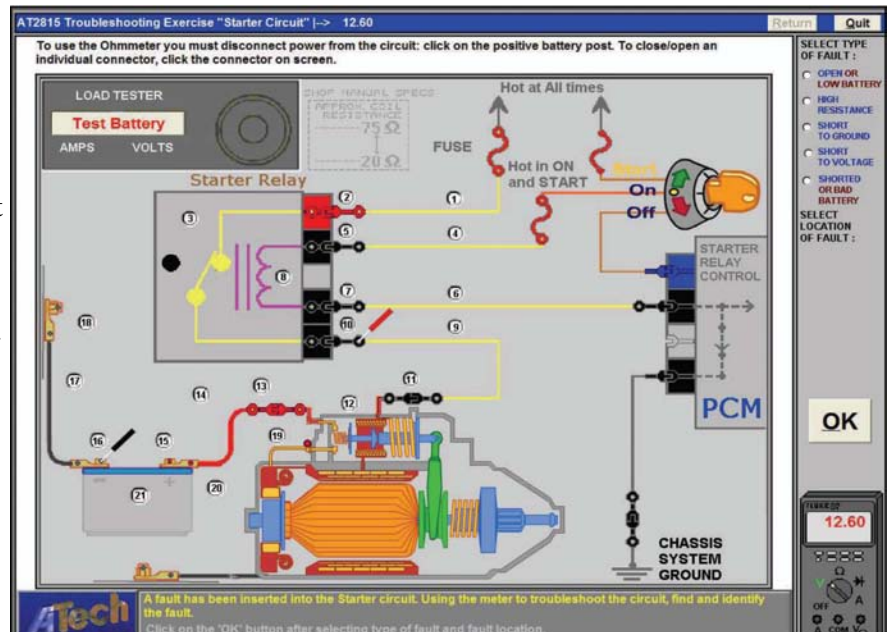
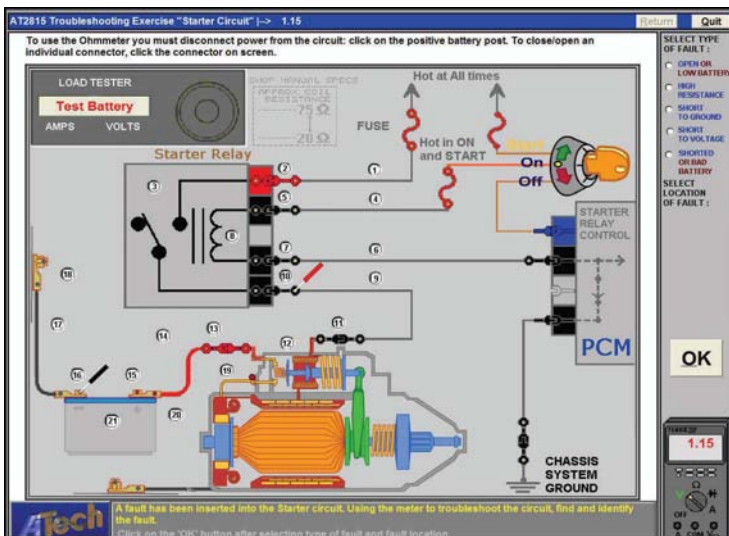

Figure 1
Figure 2
“chattering” relay fault of the 2815. The relay chatter is slowed to about once per second to allow the student to see the voltage measurements for each condition -closed and open contacts. When designing learning activities, it is often essential to reduce the speed of operation to effectively illustrate what is actually happening. For most people outside of education/training and most new instructors, “if it ain’t exactly like the car, it ain’t real”. There are thousands of examples where “real” is neither an effective, efficient, or safe learning environment. But that is another topic - back to our circuit. In figure 1, with the relay in the closed part of the chatter cycle, the voltage measured at the feed point for the solenoid is 12.6 volts. Our measurement is made from the battery negative post; so why doesn’t the solenoid activate? We obviously need more information. Figure 2 shows the relay and the voltage measurement in the open part of the chatter cycle. Something is really messed up! How can there be a voltage at the solenoid feed point (10) when the relay is open?!
windings provide parallel paths for current flow. Is there another parallel path? Yes, the PCM starter relay control switch is also chassis grounded. As shown in figure 2, the PCM switch is still closed with the relay contacts open on the open part of the chatter cycle. Therefore we would have some current flow from the battery negative post through the ground cable, through the PCM starter switch chassis ground, through the relay coil to the positive post of the battery. A simple series circuit being fed from a parallel branch at the chassis (electron flow theory).